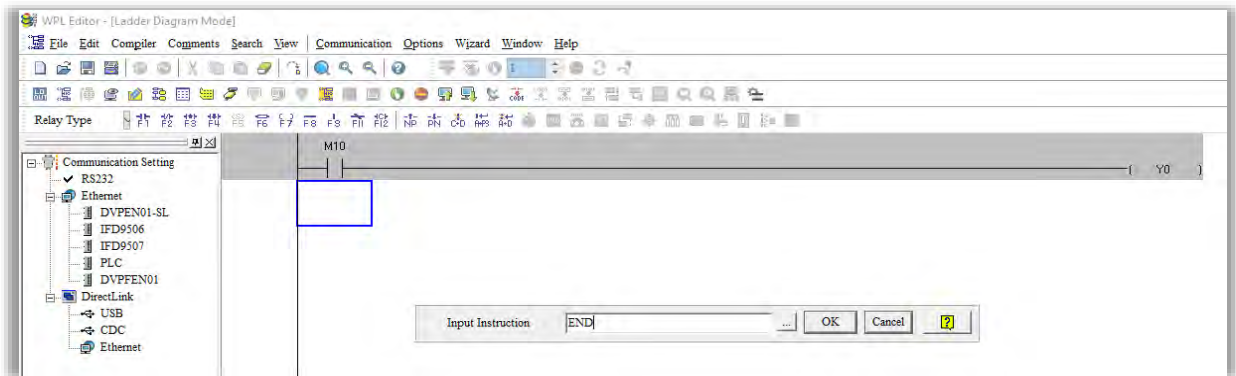

Figure 16-16
Step 4: Press “ENTER” button, when the “Input Instructions” window appears, key in “END” in the field and press the OK button (see Figure 16-16 and 16-17 below).